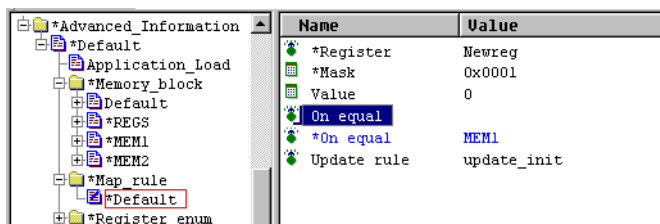

Figure 3-35 Creating a map rule
3. Set the following values, shown in Figure 3-35: